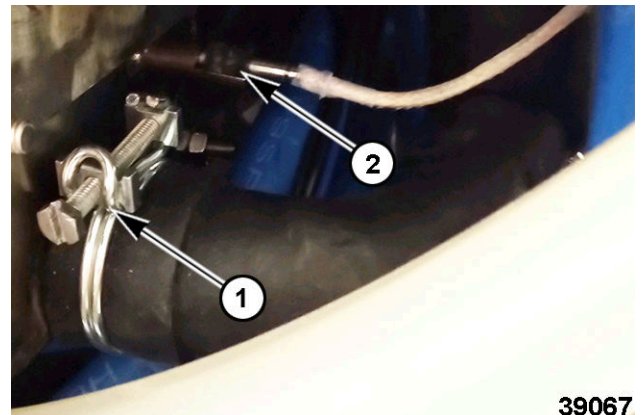

Fig. 49
5. Remove drain hose (1, Fig. 49) and completely drain steam generator.
6. Disconnect temperature probe (2, Fig. 49).